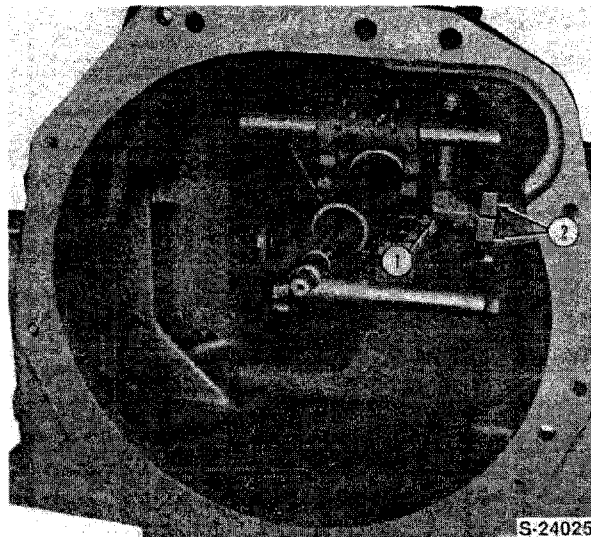

Figure 20
15. Using a heavy rubber mallet, loosen the clutch housing mating joint. While rotating the shift lever, slide the clutch housing forward separating the shift lever ball end from the shift rail notches, Figure 20.